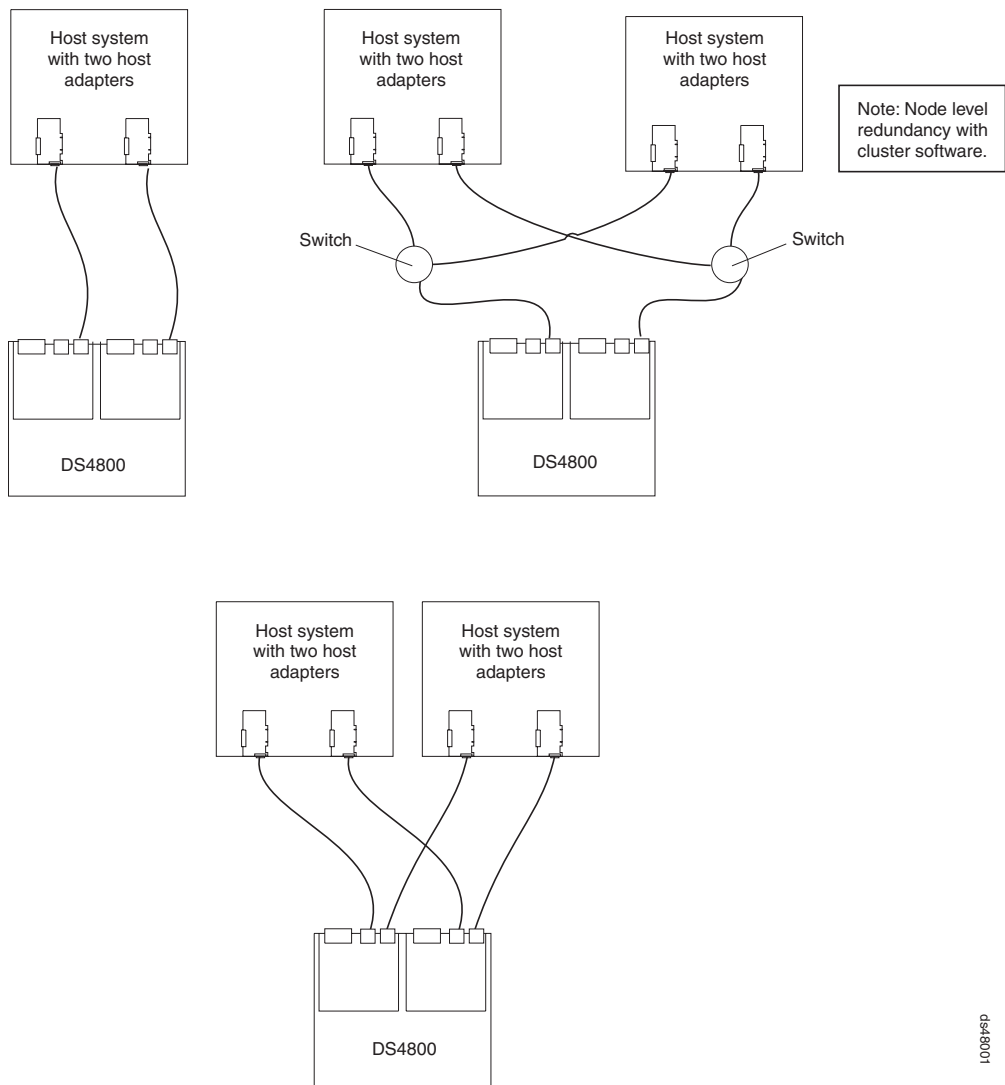

Figure 67. Examples of redundant host direct attached fibre channel configurations
- Redundant host and drive fibre channel loop configurations, as shown in Figure 67 on page 96
Figure 67 on page 96 gives an example of one host system to one DS4800; two host systems, with fibre channel switches, to one DS4800; and, two host systems, without switches, to one DS4800.
Table 30. Description of Figure 67